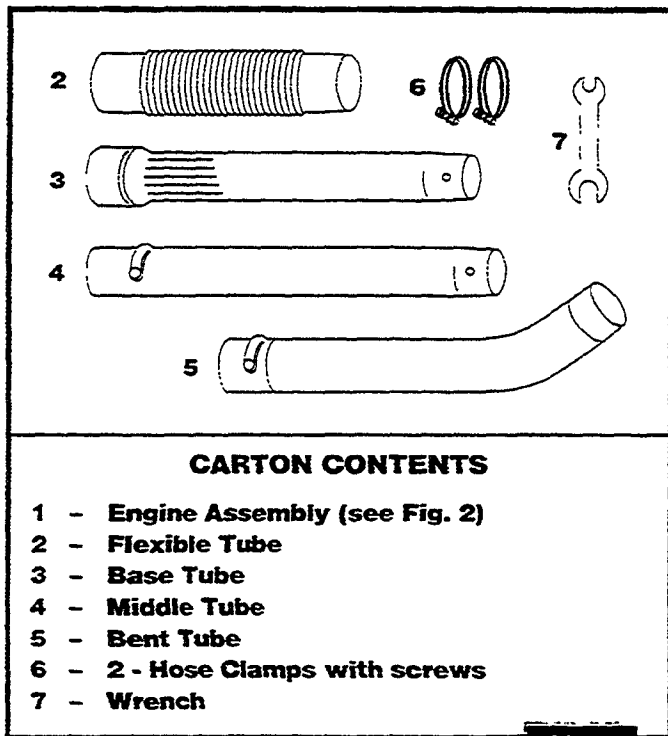

Fig. 1
2. Check parts against the list in Fig. 1